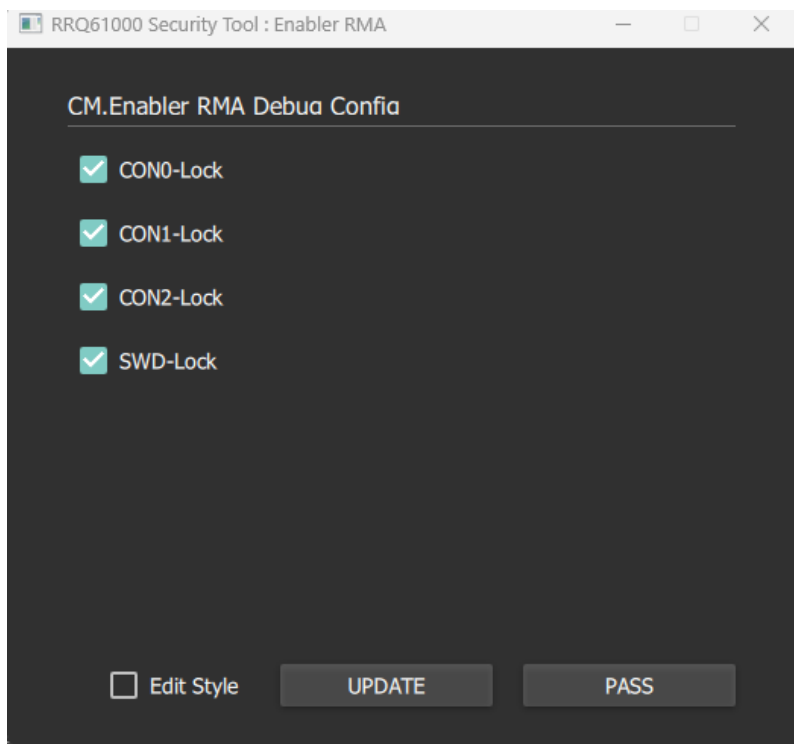

Figure 48. CM RMA
1. In the **Enabler RMA** window (Figure 48), click **Update**.